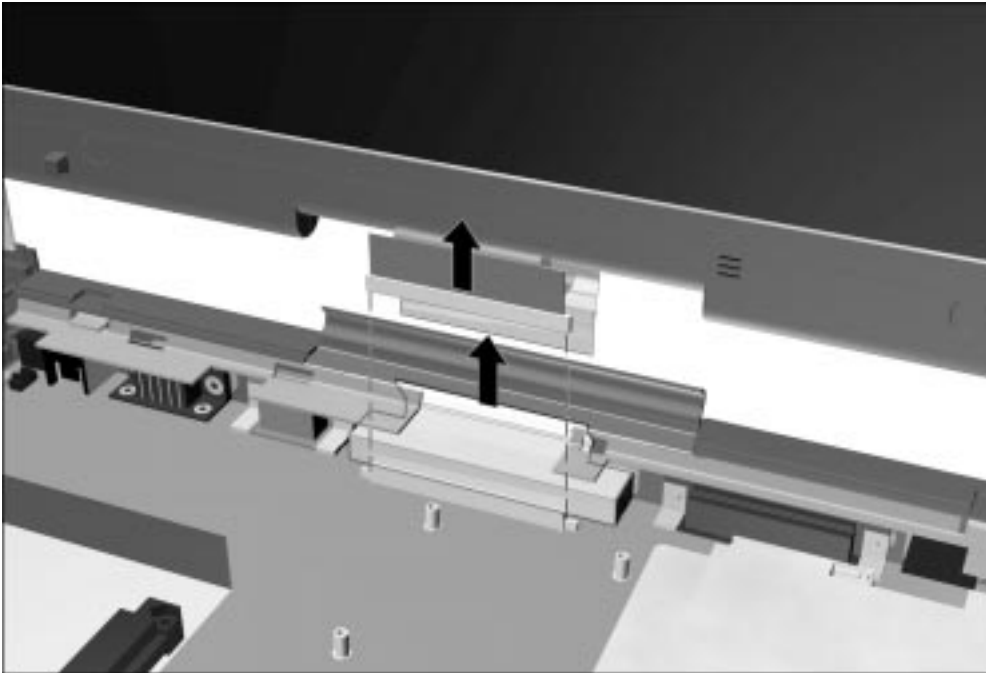

Figure 5-34. Disconnecting the Display Cable
7. Disconnect the display cable from the system board (Figure 5-34).